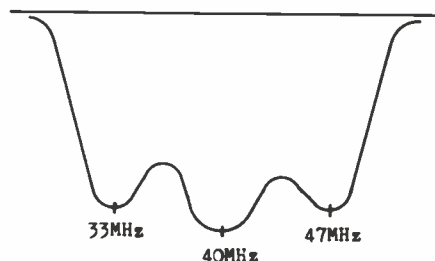

Figure 1
6. Adjust the following coils for maximum waveform as shown in Figure 1.